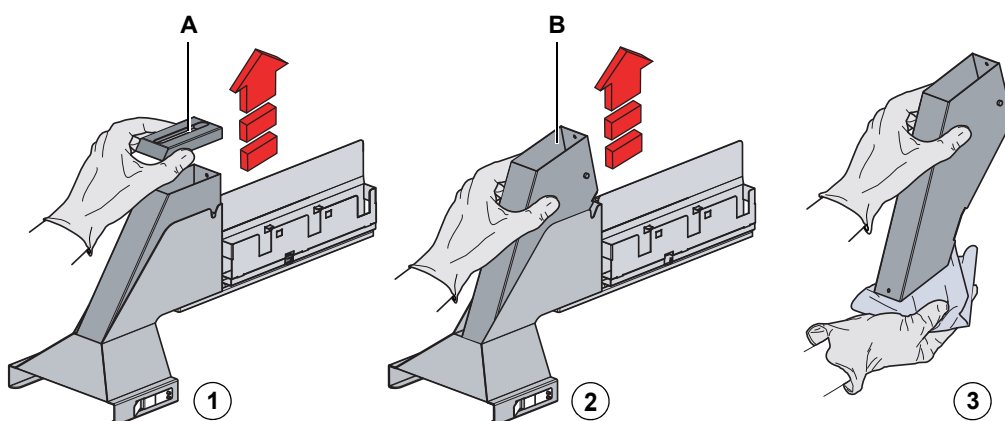

Fig. 7-13 Removing the DiTi waste and slide
- 1 Remove the DiTi waste cover (A) Fig. 7-13 , 7-24.
- 2 Remove the DiTi waste slide (B) Fig. 7-13 , 7-24.
- 4 Reinstall the DiTi waste slide (B) and DiTi waste cover (A) Fig. 7-13 , 7-24.